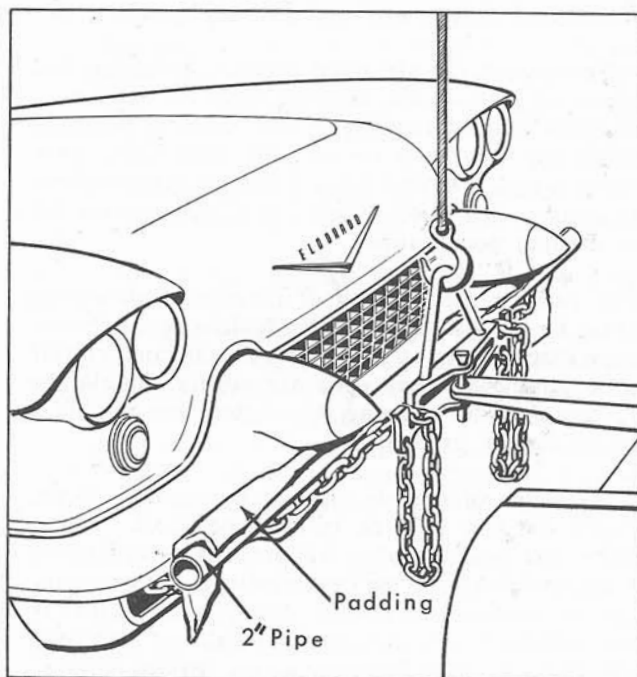

Fig. 4-5 Towing From Front
3. Place protective padding around front bumper impact bar extensions and hold a six foot length of 2" pipe under the bumper bar guards parallel with the front bumper, Fig. 4-5. Then, raise front end of car with truck hoist until spreader bar and chains are bearing against the length of 2" pipe and front end of car is raised sufficiently for towing purposes. Check rear end to assure ground clearance at spare tire well.